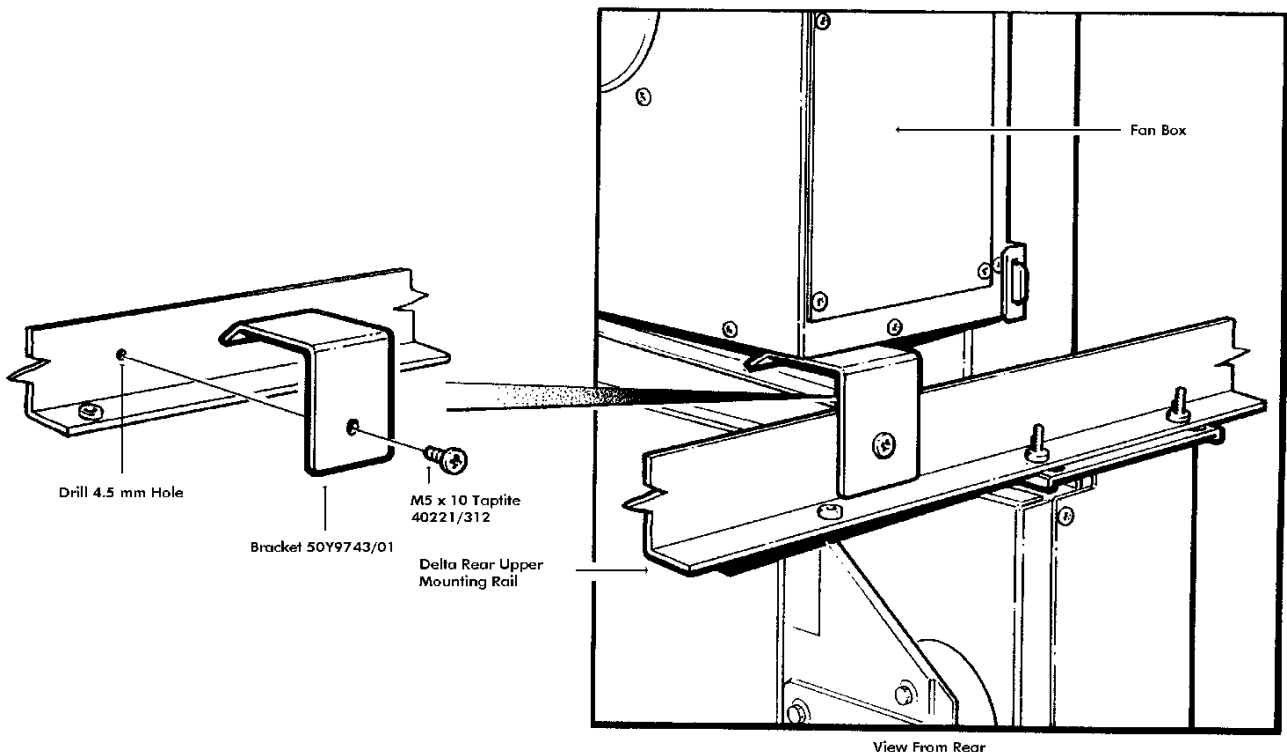

Figure 4 - Fitting of fan support bracket (50Y9743/01)
- Shown in Figure 4 - Fitting of fan support bracket (50Y9743/01) is the recommended fitting for the support bracket.